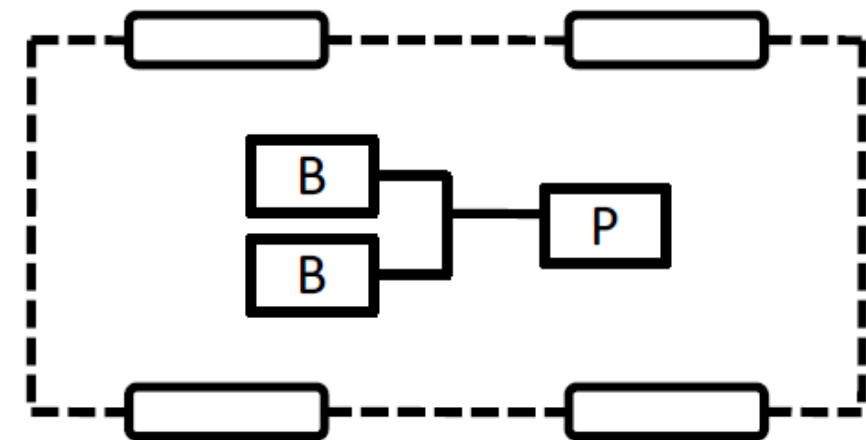

Figure 4b: EV configuration with two battery sources [1]
2. Configuration 2: Figure 4b: